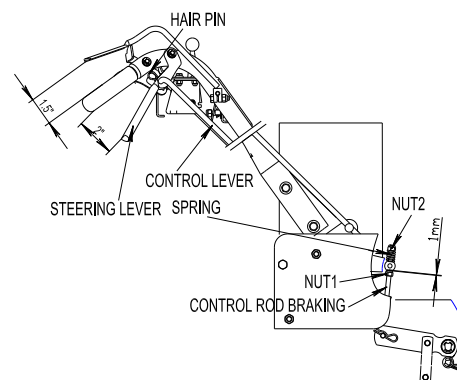

FIG 13
- Adjusting brake lever: Loosen or tighten locknut at the bottom of brake lever to adjust the length of the brake lever. See FIG 13